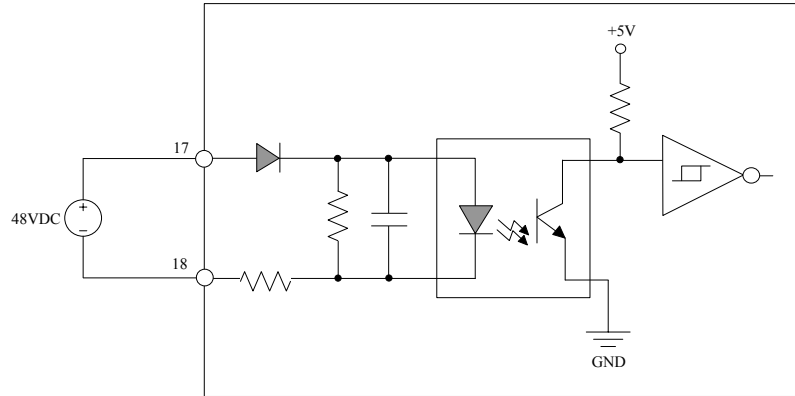

Figure 11.31: Field Power Loss Detection Circuit of LK652
- As shown in Figure 11.31, terminal “17” connects to the positive end of field power supply while terminal “18” connects to its negative end. LK652 conducts the power loss detection by checking the changes of input voltage